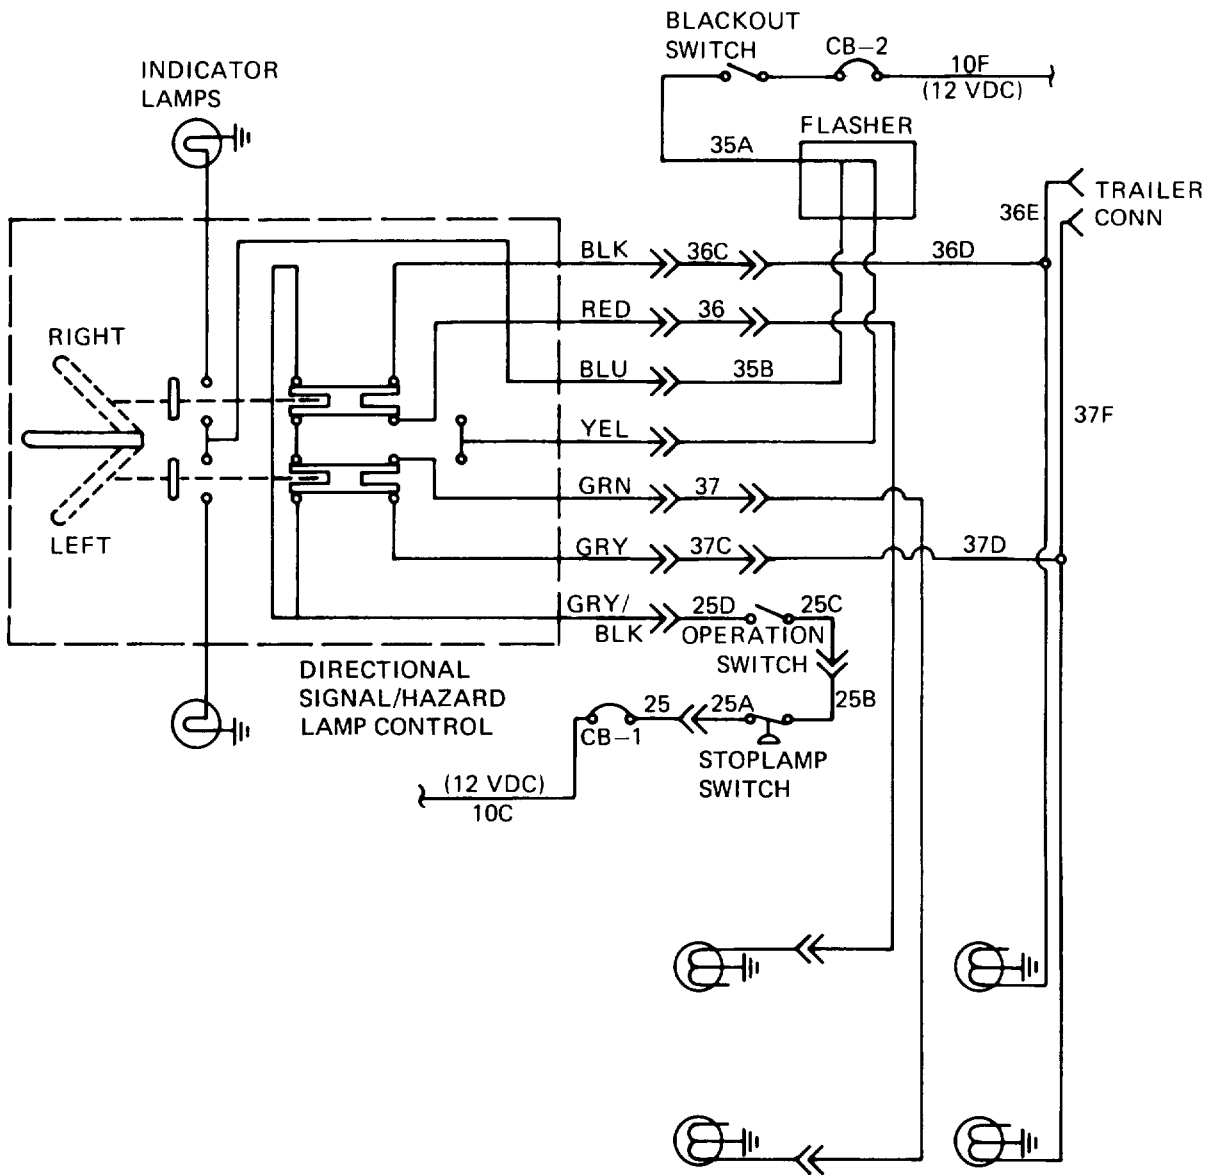

Figure 5-35. Stop and Turn Signal Lamp Circuit.
a. *Description.* The turn signal and stop lamps (fig. 5-35) are combination lamps which also provide the parking and tail lamp functions. Referring to figure 5-35, you will see that circuits 35B and 36C provide the right turn directional flashing when the control handle is raised. Circuits 37 and 37F provide the left turn directional flashing when the control lever is lowered. The hazard lamps use those same circuits simultaneously to provide flashing of all four lamps. The stop lamp switch completes circuit 25 to actuate circuits 36C and 37F which provide the stop lamp function. The flashing functions override the stop and park functions. The flashing lamps on the control operate in conjunction with the flashing circuits (refer to table 5-11).